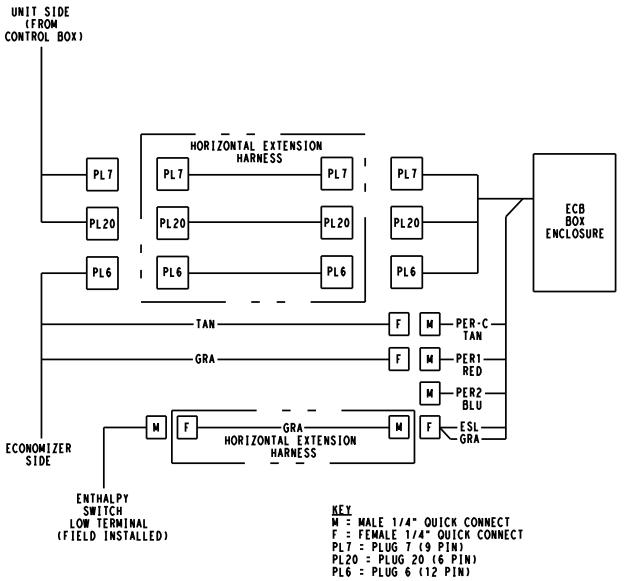

Fig. 2 - Wire Connection Detail
7. Connect the plugs identified in previous steps to the ECB harness. See Fig. 2. The plugs are mate and lock and can only be plugged in one direction, be sure the locking tabs click into place. Be sure the quick connects make proper connection.
8. Connect the plugs identified in previous steps to the ECB extension harness. See Fig. 2. The plugs are mate and lock and can only be plugged in one direction, be sure the locking tabs click into place. Be sure the quick connects make proper connection.
10. Connect the extension harness plugs to the ECB harness. See Fig. 2. The plugs are mate and lock and can only be plugged in one direction, be sure the locking tabs click into place. Be sure the quick connects make proper connection.